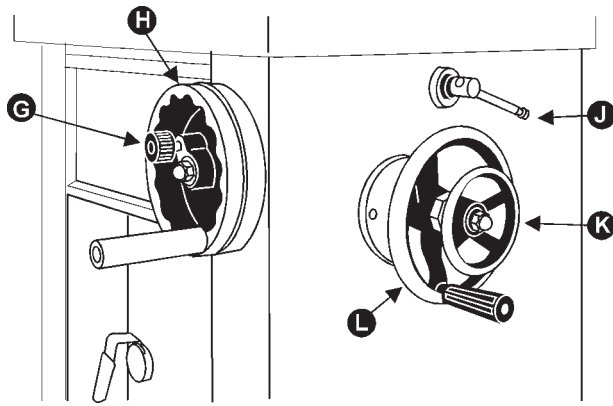

FIGURE 13
1. Loosen knob (G) on the tilting handwheel (H), Figure 13.
2. Loosen lock handles (J) on both sides of the machine.
3. Turn handwheel (H) to desired position and tighten knob (G) and handles (J).
1. Loosen the small handwheel (K), Figure 13.
2. Turn large handwheel (L) until spindle reaches the desired height.
3. Retighten small handwheel (K).